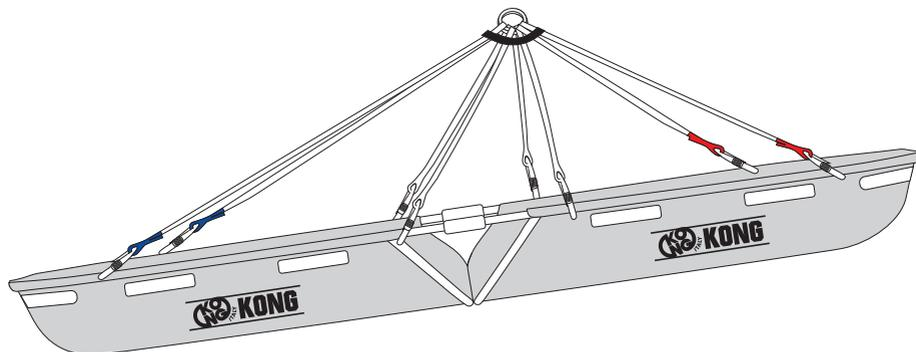

Fig.15
- a) Connect the suspension assembly to the corresponding side holes on the stretcher, using the eight connectors (red, head side - blue, feet side) (Fig. 15),